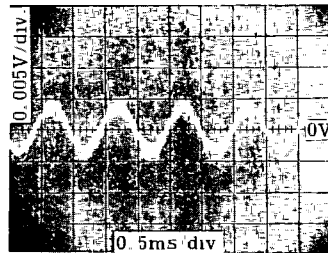

Figure 5-5. Waveform at A5TP1.
- g. Adjust A5R31 OFFSET-1 until dc level of displayed waveform is within 0mV \pm 2mV. Refer to Figure 5-5 which shows well-adjusted waveform.